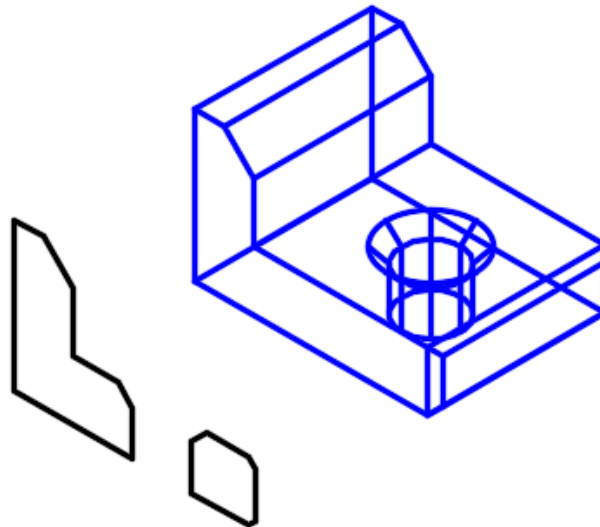

Figure Step 11
Step 11 Using the MOVE command move the region, that you just created, outside of the solid. The distance you move it is not important. (Figure Step 11)